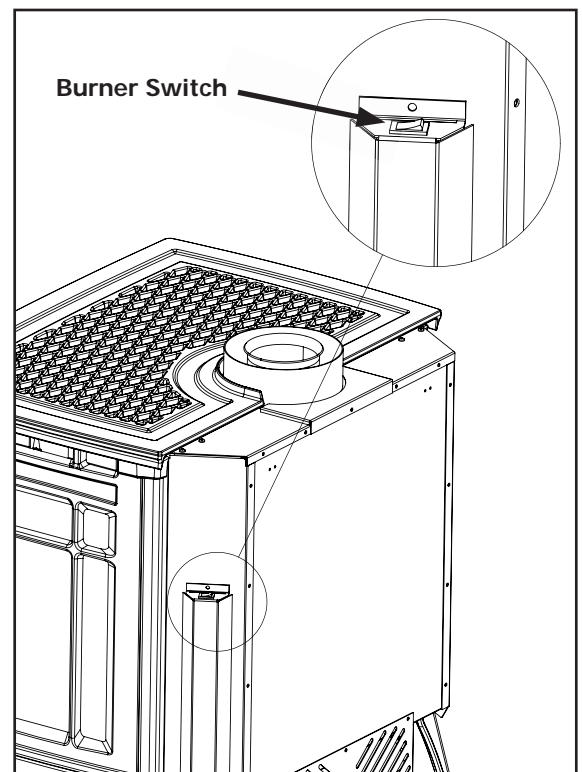

Figure 7. Burner Switch
This fireplace can use an optional remote control or wall thermostat. If either of these are to be used to control the fireplace for the majority of the time, leave the burner switch (Figure 7) in the remote/thermostat position. Consult the instructions included with the remote/wall thermostat for operation guidelines.
- C) Flip the burner switch, located at the top right rear of the Berkeley, to ON (see Figure 7)